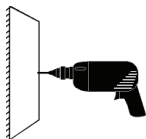

Figure 1
- Drill a single hole using a 4mm (5/32") diameter drill for timber walls, or a suitable wall plug for brick and concrete walls. (Figure 1.)